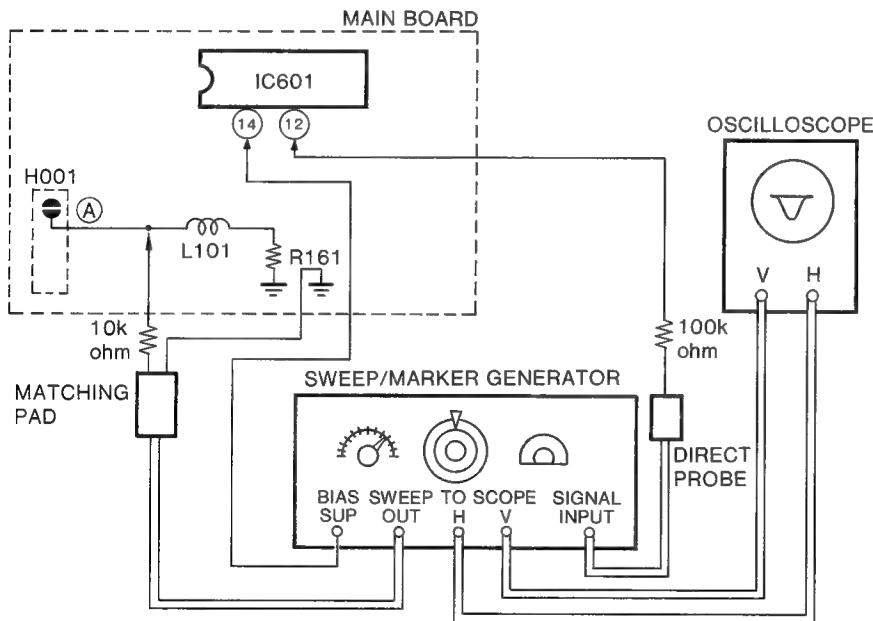

Figure 15. Sound I-F Sweep Alignment
1. Unsolder the solder link (A) on the foil side of Main Board and connect a matching pad from the sweep/marker generator in series with a 10k ohm resistor to the junction of L101 and R161. (See figure 15.)